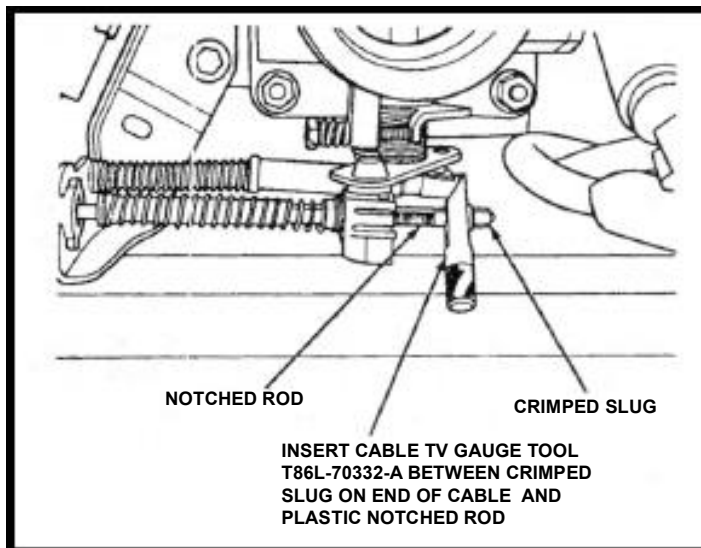

FIGURE 17
7.3 Insert tapered end of the tool between the crimped slug on the end of cable and plastic notched rod, also on end of cable assembly. Push in Cable TV Gauge Tool T86L-70332-A or equivalent forcing the crimped slug away from the plastic rod. Ensure gauge block is pushed in as far as it will go. (See Fig. 17.)